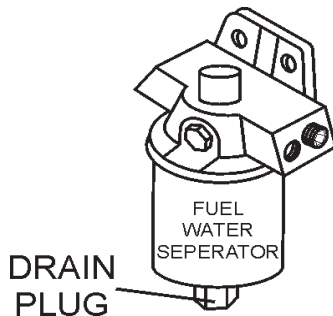

Figure 17. Fuel Water separator Filter
1. Inspect the fuel water separator (Figure 17) every 40 hours. If the fuel water separator requires maintenance follow steps 2 and 3 below: